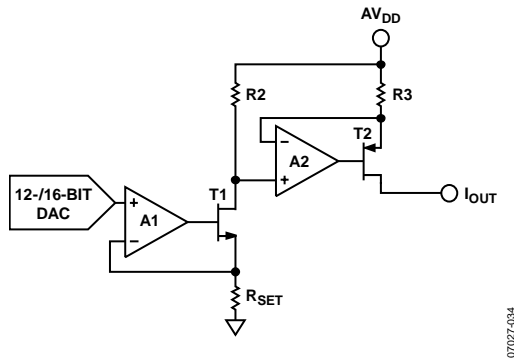

Figure 38. Voltage-to-Current Conversion Circuitry
The voltage output from the DAC core is converted to a current (see Figure 38) that is then mirrored to the supply rail so that the application simply sees a current source output with respect to ground.
- The voltage at  $I_{\text{OUT}}$  attempts to rise above the compliance range, due to an open-loop circuit or insufficient power supply voltage. The  $I_{\text{OUT}}$  current is controlled by a PMOS transistor and internal amplifier, as shown in Figure 38. The internal circuitry that develops the fault output avoids using a comparator with window limits because this requires an actual output error before the  $\overline{\text{FAULT}}$  output becomes active. Instead, the signal is generated when the internal amplifier in the output stage has less than approximately 1 V of remaining drive capability (when the gate of the output PMOS transistor nearly reaches ground). Thus, the  $\overline{\text{FAULT}}$  output activates slightly before the compliance limit is reached. Because the comparison is made within the feedback loop of the output amplifier, the output accuracy is maintained by its open-loop gain and an output error does not occur before the  $\overline{\text{FAULT}}$  output becomes active.